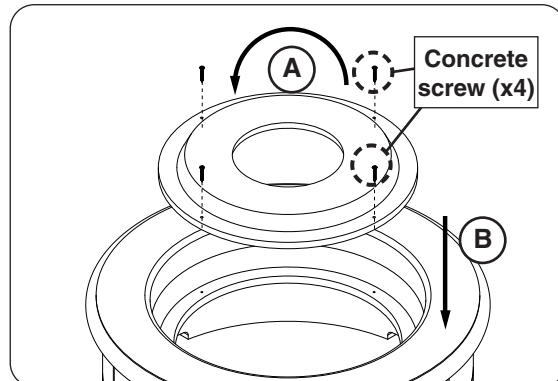

Fig. 30-2 Flip and install refractory panel
2. Flip the refractory panel and align the pilot holes. Reinstall the 4 concrete screws (see Fig. 30-2).